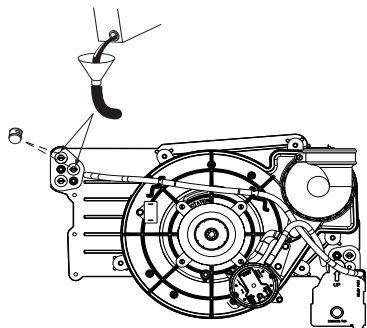

Fig. 62 – Priming Condensate Trap
1. Remove upper and middle collector box drain plugs opposite of the condensate trap. See Fig. 62.